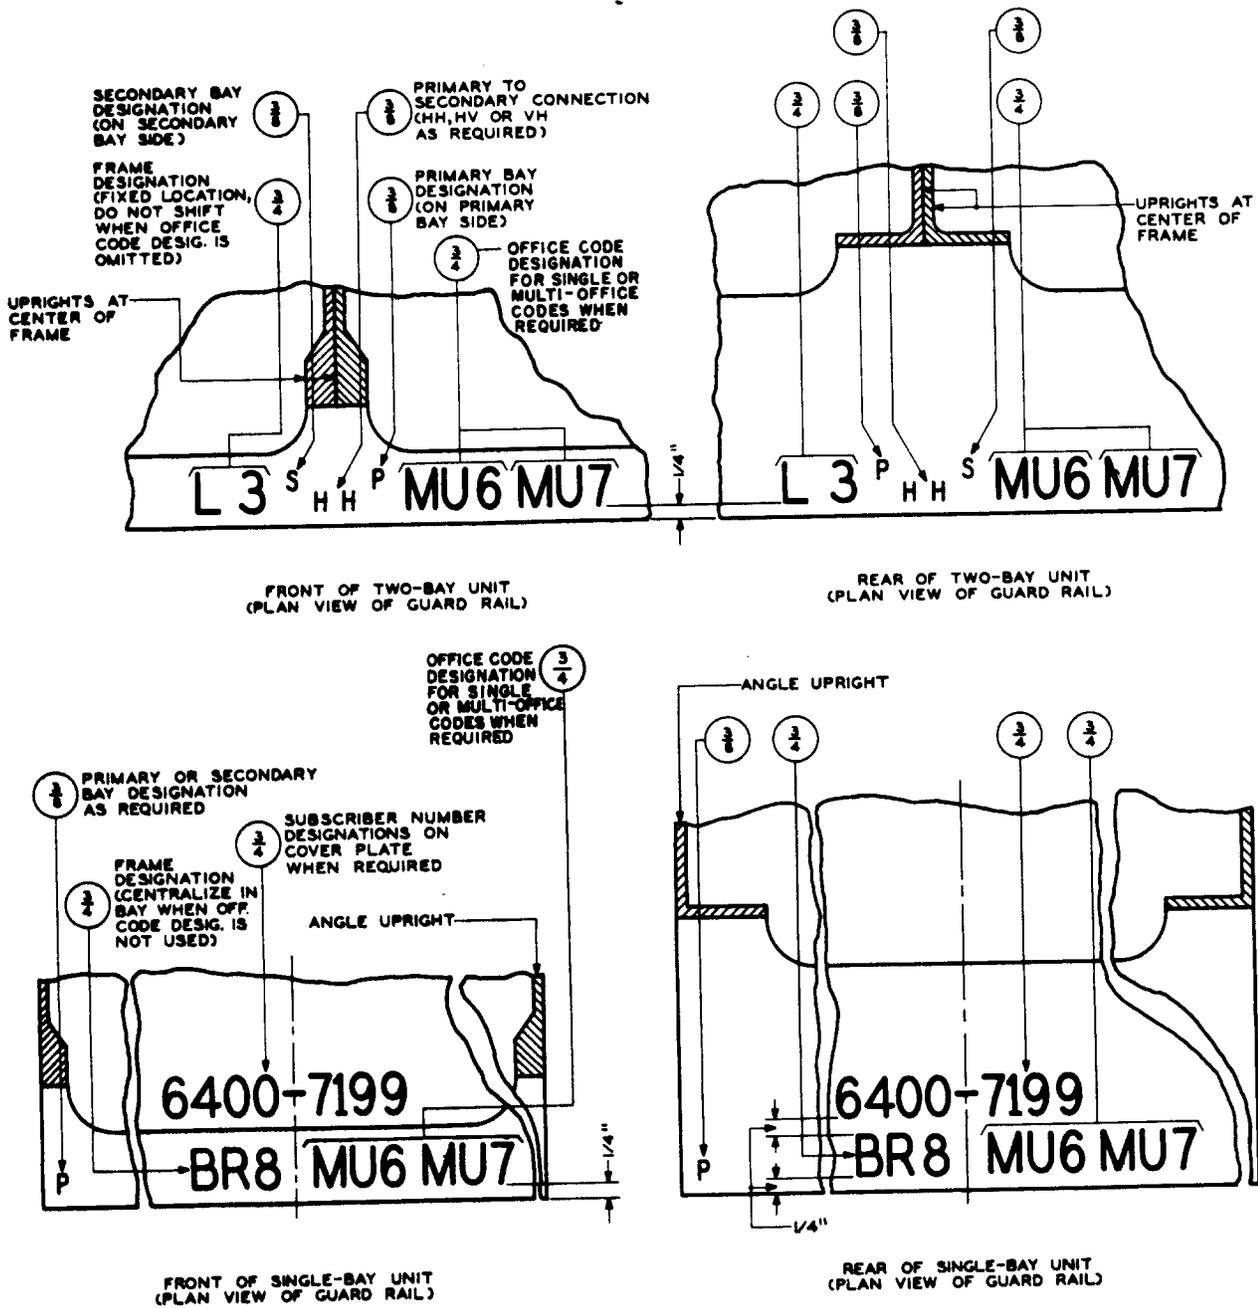

Fig. 4 - Bulb-angle Frame Designations
2.07 The frame designation, including the primary and secondary bay designations, when required, shall be stamped on the top surface of the frame base, both front and rear, as shown in Fig. 4 and 5. In the case of line link frames which may consist of a basic 2-bay unit and one or more single-bay units, the frame designation (L 0, L 1, etc) shall be stamped on the basic unit and on the last (right, left, or both) associated supplementary unit in the same line-up.
levels on the respective switches shall be indicated by associating an H and V with the P and S bay designations on the frame base, as shown in Fig. 4.
2.10 The office code designation, when specified on the equipment drawings, shall be stamped on the frame base adjacent to the frame designation, as shown in Fig. 4.